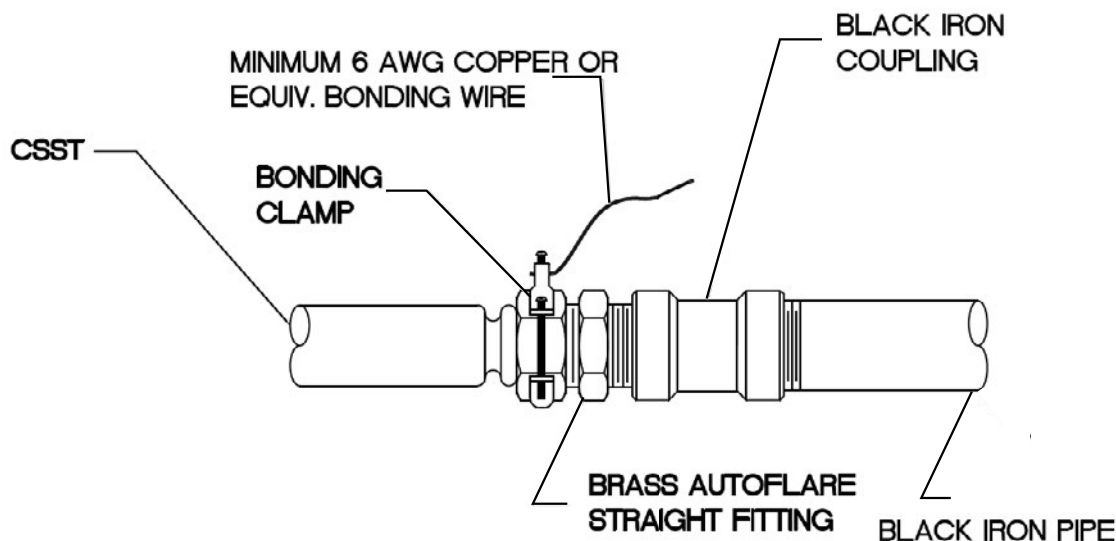

Figure: 4-24
1. For bonding of the *TracPipe*® system, a bonding clamp must be attached to the brass **AutoFlare**® / **AutoSnap**® fitting adapter (adjacent to the pipe thread area – See Figure: 4-24) or to a black pipe component (pipe or fitting) located in the same electrically continuous gas piping system as the AutoFlare® / AutoSnap® fitting. The corrugated stainless steel, portion of the gas piping system SHALL NOT be used as the bonding attachment point under any circumstances. The bonding conductor shall be at least #6 AWG copper and connected per the Canadian Electrical Code (C22.1) or as amended by the provincial government.